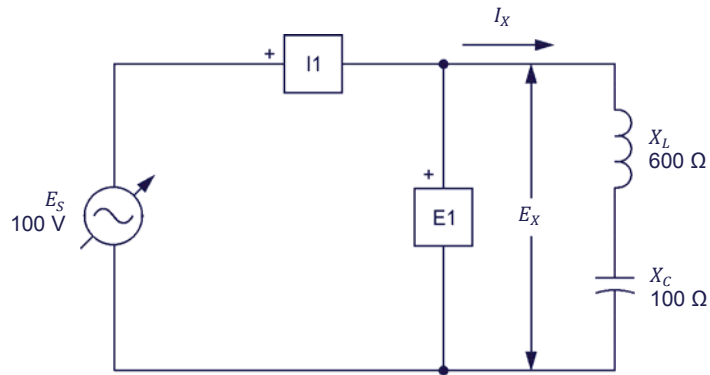

Figure 2-16. Series ac circuit containing an inductor and a capacitor.
6. Set up the circuit shown in Figure 2-16.
In this section, you will calculate the equivalent reactance $X_{\text{Equi.}}$ of the reactive components in the circuit of Figure 2-16. You will measure the voltage E_X and current I_X and calculate the equivalent reactance $X_{\text{Equi.}}$ from these values. Using the Oscilloscope, you will determine the phase relationship between the voltage E_X and current I_X and whether the equivalent reactance is inductive or capacitive. You will then interchange the inductive and capacitive reactance values in the circuit and repeat the previous manipulations. You will determine the relationship between the polarity of the equivalent reactance $X_{\text{Equi.}}$ of the reactive components and the nature of the equivalent reactance (inductive or capacitive).